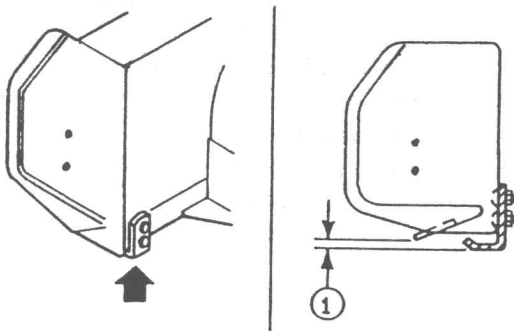

FIGURE 14
- a) **Level Paved Surface** - adjust skid shoes to allow 3/16 to 1/4" clearance (fig. 14, item 1) between cutting edge and surface.
- b) **Uneven or Gravel Surface** - adjust skid shoes to allow 1/2 to 5/8" clearance (fig. 14, item 1) between cutting edge and surface.